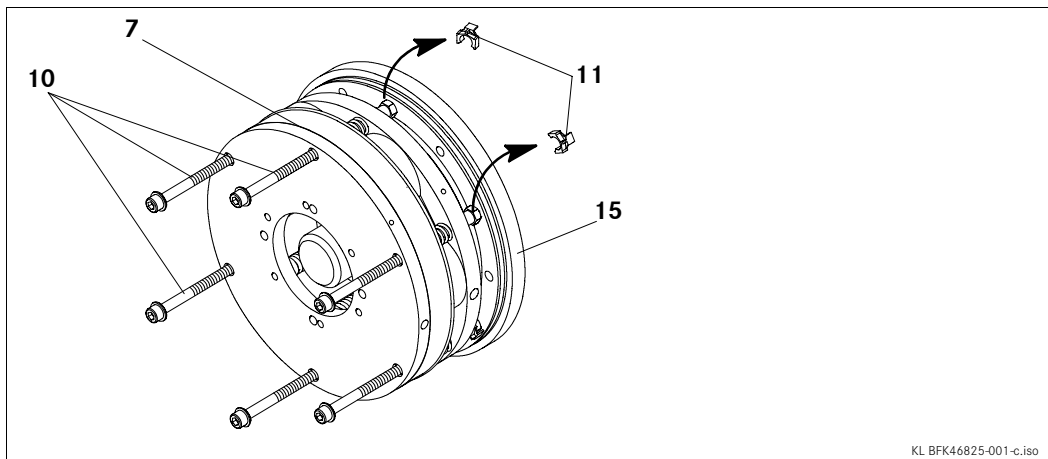

Fig. 7 Assembly of the complete stator
4. Screw the complete stator (7) onto the endshield (15) using the screws (10). (Fig. 7).
5. Remove the clips (11) (throw away; Fig. 7).